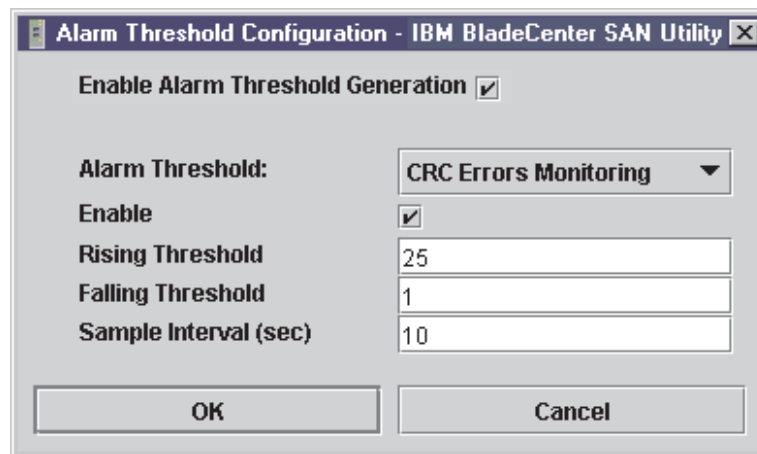

Figure 14. Alarm Threshold Configuration window
2. The Alarm Threshold Configuration window shown in Figure 14, prompts you to select an event, set thresholds, set a sampling interval, and enable or disable the alarm.